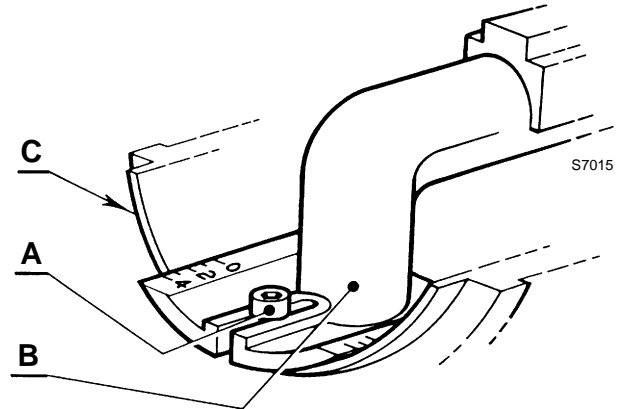

Fig. 12
- loosen the screw A)(Fig. 12), move the elbow B) so that the rear plate of the coupling (C) coincides with the set point;